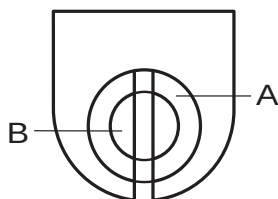

Fig. 9. Align the slits in parts (A) and (B) before inserting new lamps.
Before inserting new lamps, make sure that the slits in the turnable ring-shaped part (A) and the fixed part (B) of the lamp holders are correctly aligned according to Figure 9. Insert the lamp with the two contact pins oriented in line with the slit in the lamp holder. Turn the lamp 90° so that the print on the lamp faces the reflector in the lamp housing/lid.